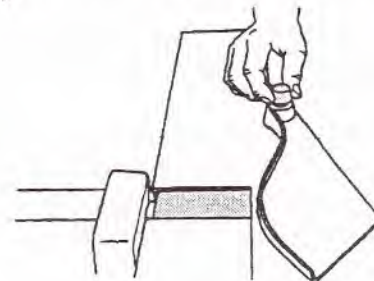

Fig. 4
6. Remove the guard's knob, as shown in Fig. 4.